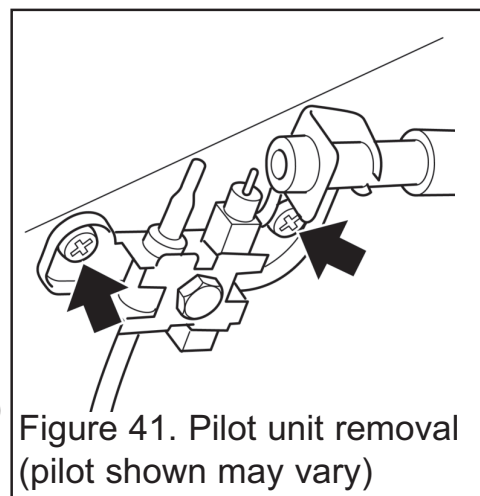

Figure 41. Pilot unit removal (pilot shown may vary)
3. Detach the thermocouple from the interrupter block or valve (RC) by unscrewing the thermocouple nut.
4. Detach the electrode lead from the underside of the electrode tab. (RC) has 2 leads note the valve connection tabs before removal. **Note** as incorrectly fitting these 2 leads around will result in an Error code on handset.
6. Remove the 2 screws securing the pilot unit (Fig 41)